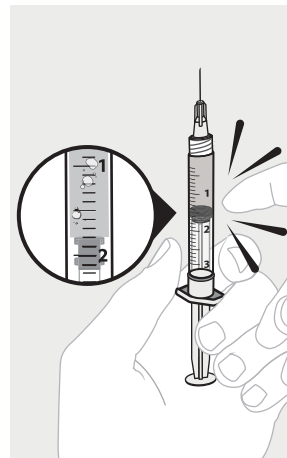

Figure 55
- a. Invert the syringe so that the needle is pointing up. Tap on the side of the syringe to loosen any air bubbles until they float to the needle hub (see Figure 55). Press on the plunger until air is expelled.